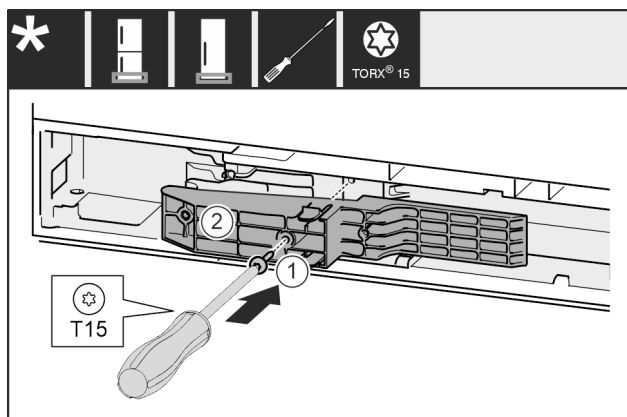

Fig. 51 *
- ▶ 将把手侧的适配件 Fig. 51 (1)插入凹槽。*
- ▶ 将螺钉 Fig. 51 (2)用螺丝刀拧紧。*